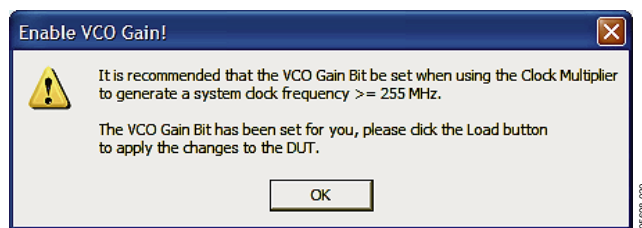

Figure 20.
**VCO Gain** is automatically set when the Ref Clock Multiplier is being used to generate a system clock that is greater than 255 MHz. This is done to ensure stability of the Ref Clock Multiplier circuitry. A pop-up window will appear alerting you to this update (see Figure 20).